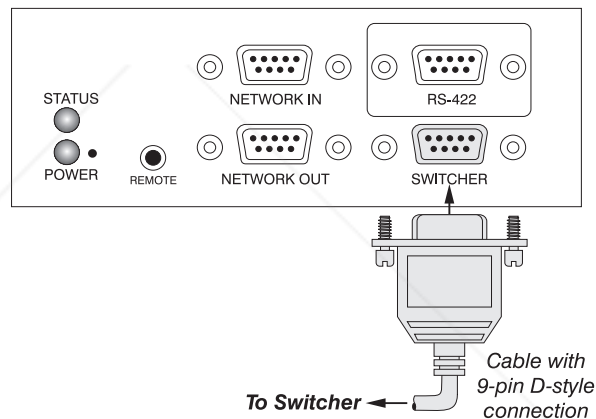

Figure 2-19. RS-232 Serial Port Connection to a Switcher
- If using a switcher** ➤ You may wish to use one or more external *Marquee* switchers or third-party switchers in order to significantly increase the number of sources you can use. Connect an RS-232 serial communication cable between the switcher and the projector serial port labeled "SWITCHER" (Figure 2-19). This port is permanently set at 9600 baud.